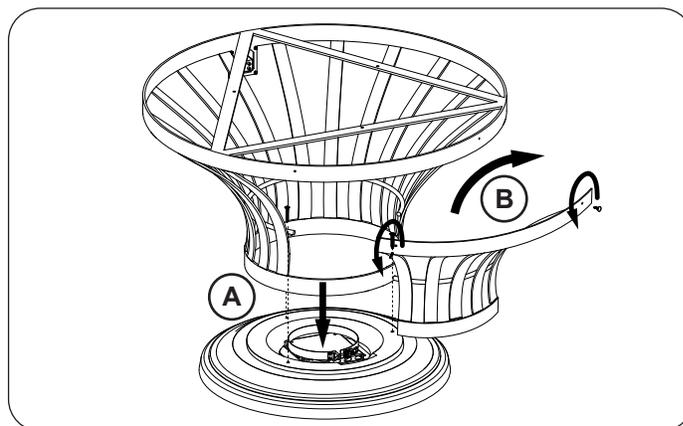

Fig. 36-1 Place base, fasten, and remove door
1. **Carefully** remove the valve and burner assembly from the base, then **carefully** place the base bottom and base in an appropriate location (see Fig. 36-1, A, and refer back to the LOCATION section if needed).
2. Use a Phillips screwdriver and the supplied concrete screws (3) to fasten the base bottom to the base as shown in Fig. 36-1, A.
3. Remove the storage door by first turning the two thumb screws counter-clockwise, then carefully pulling the door up and outward (see Fig. 36-1, B). Store in a safe location.